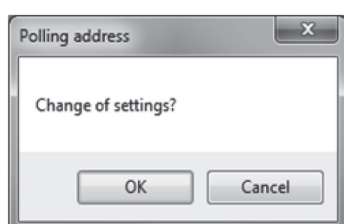

Fig.102
- ③ Click "OK" after entering the number. Then a message box (Fig. 102) appears. By clicking "OK", the new setting will be applied to the polling address.